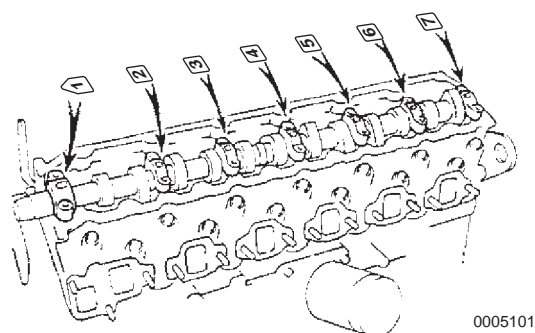

Figure 5-72
6. Install 7 bearing caps, 12 rocker arms, 6 holder clamps and the rocker shaft assembly (**Figure 5-72**).